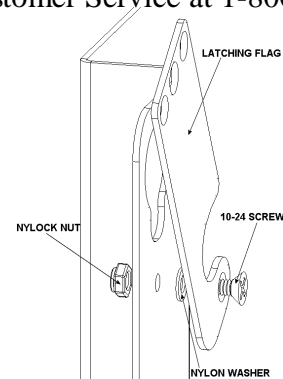

Figure 2
1. Attach latching flag to mount using 10-24 nylock nut, 10-24 flat head screw, and the nylon washer between the flag and mount (See Figure 2). Tighten until friction will hold the flag in place.